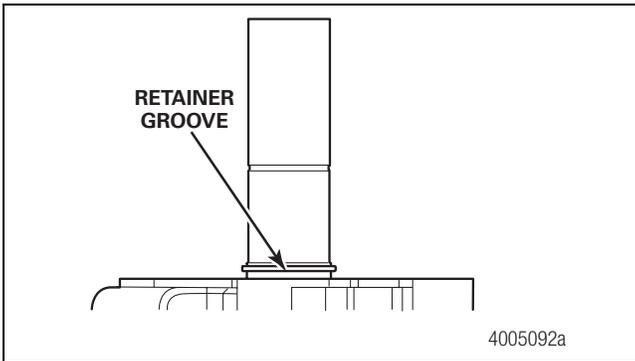
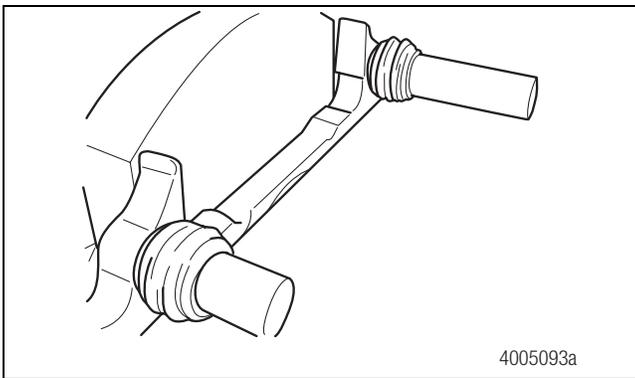

Figure 5.21
Figure 5.22
2. Slide the new slide pin boots over the slide pins. Verify that the slide pin boot bead is in the slide pin retainer groove. Figure 5.21 and Figure 5.22.